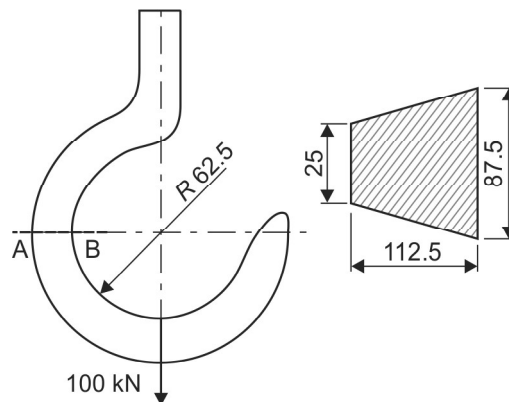

Fig. M1.9
b. Fig. M1.9 shows a 100 kN crane hook with a trapezoidal section. Determine stress in the outer, inner, Cg and also at the neutral fiber and draw the stress distribution across the section AB.